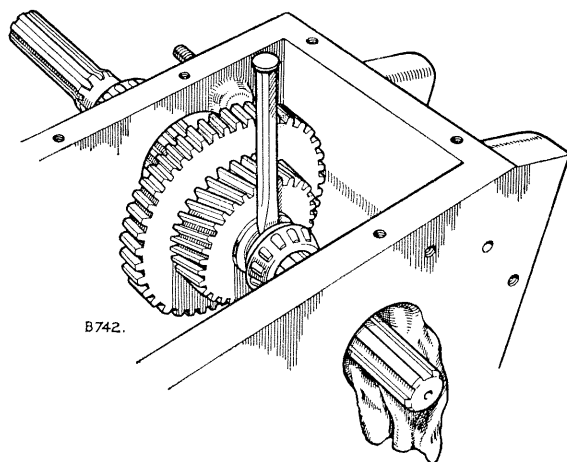

Fig. C-19—Removing transfer box output shaft front bearing inner race
10. Part the front bearing inner race from the circlip retaining the high speed gear thrust washer by means of a mild steel chisel (Fig. C-19), then drive the front bearing inner race from the output shaft by means of brass drift.